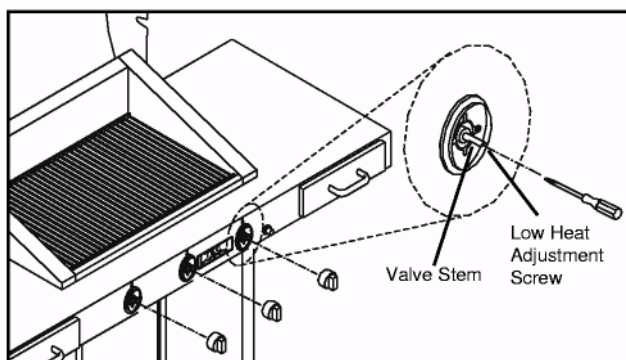

Figure 14. Low Heat Adjustment (Sterling G-3000 FR shown)
3. Remove the Burner Output Knob from the valve stem. (See Figure 14 below)